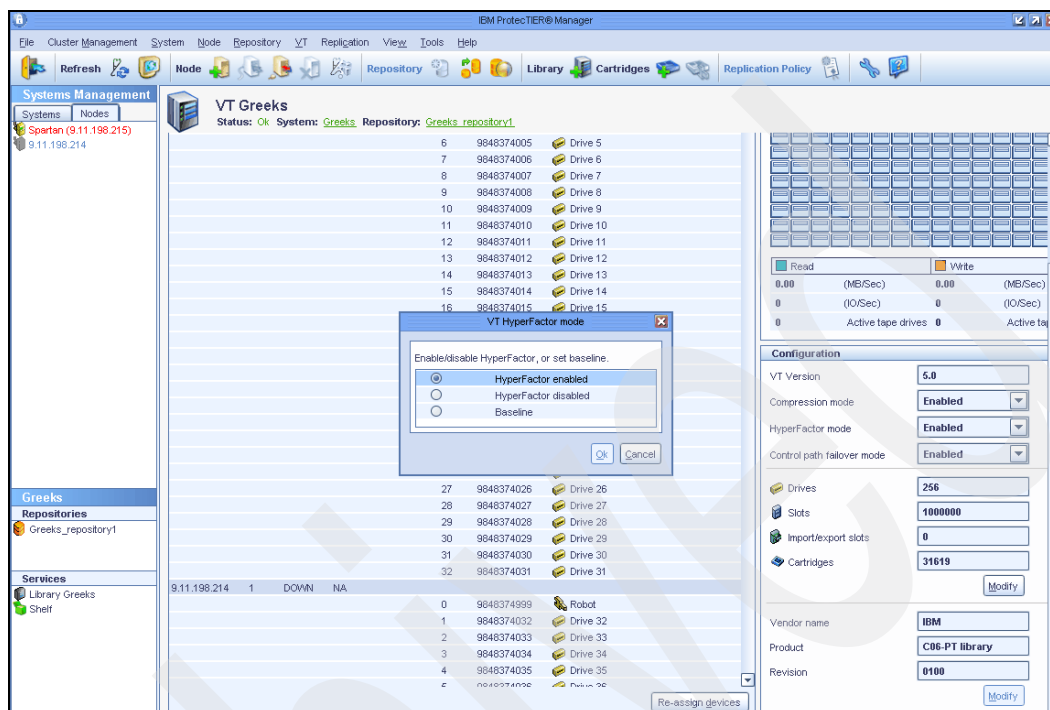

Figure 8-36 ProtecTIER Manager “HyperFactor mode”
2. Select the VT library for which you want to stop the HyperFactor mode. Then select **Set HyperFactor mode** (see Figure 8-36). The ProtecTIER VT HyperFactor mode dialog box is displayed.